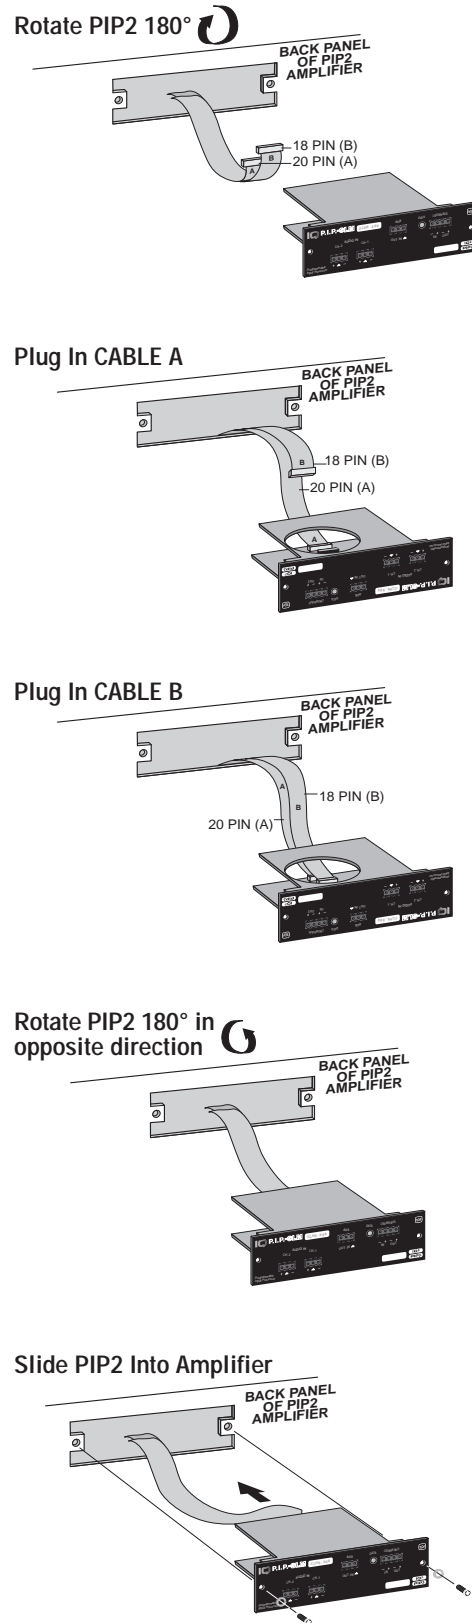

Fig. 4.3 Installing the *IQ-P.I.P.-SLM*
6. Install the *IQ-P.I.P.-SLM* into the amplifier: Turn the *IQ-P.I.P.-SLM* over so that you can clearly see the two ribbon-cable connectors located on the underside of the top board near the back corner (see Figure 2.1). Connect the two input ribbon cables of the amplifier. The 20-pin cable (A) should be connected first, then the 18-pin cable (B) should be connected. Both ribbon cables should run untwisted from the amplifier to the *P.I.P.* card (see Figure 4.3).